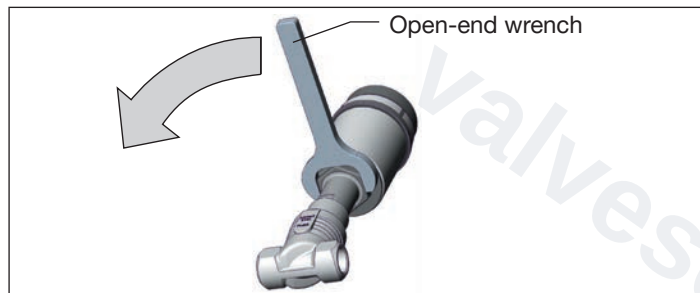

Fig. 8: Rotating with open-end wrench
- Only turn the actuator in the specified direction (see "Fig. 8")!